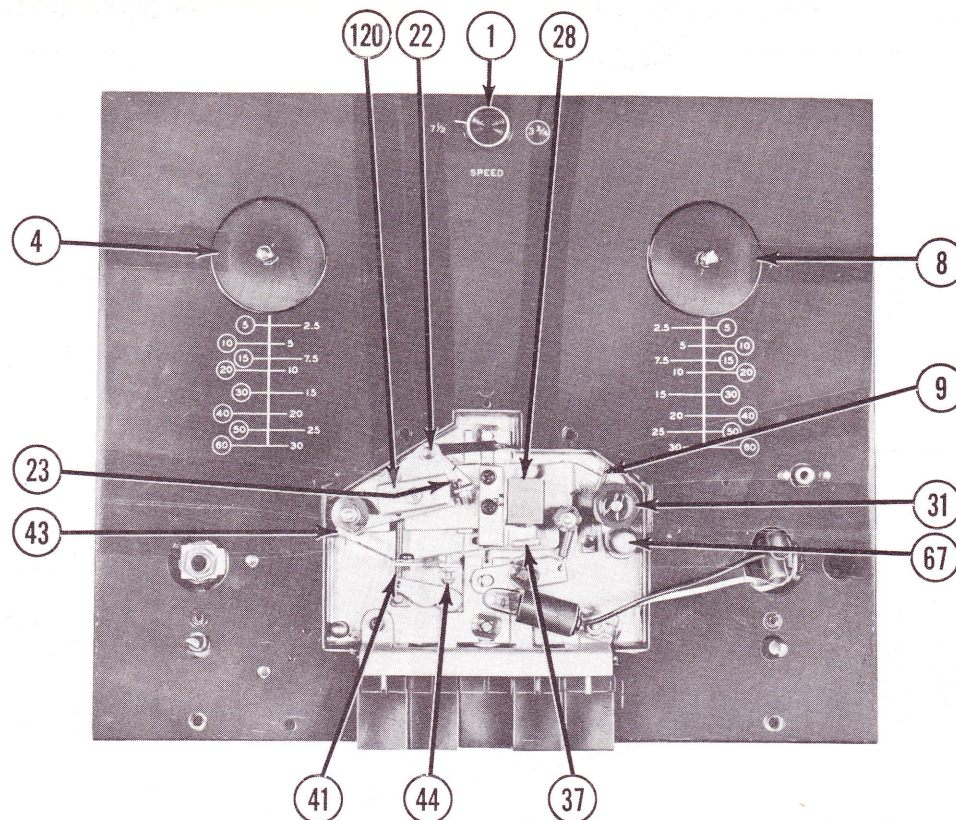

Figure 2.
2. With the trim covers removed check the erase head (120), see Figure 2, to see if it is parallel with the tape, if not loosen screw (22) just enough so the head can be pivoted and align it with the tape then tighten the screw.